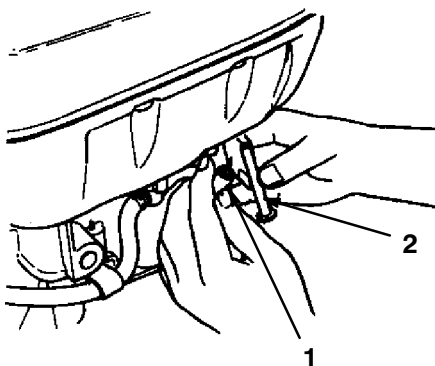

Figure 30
6. Remove the fuel tube on the fuel tank by loosening the tube clamp (Fig. 30).
7. Remove the fuel filter from the fuel tank (Fig. 30).